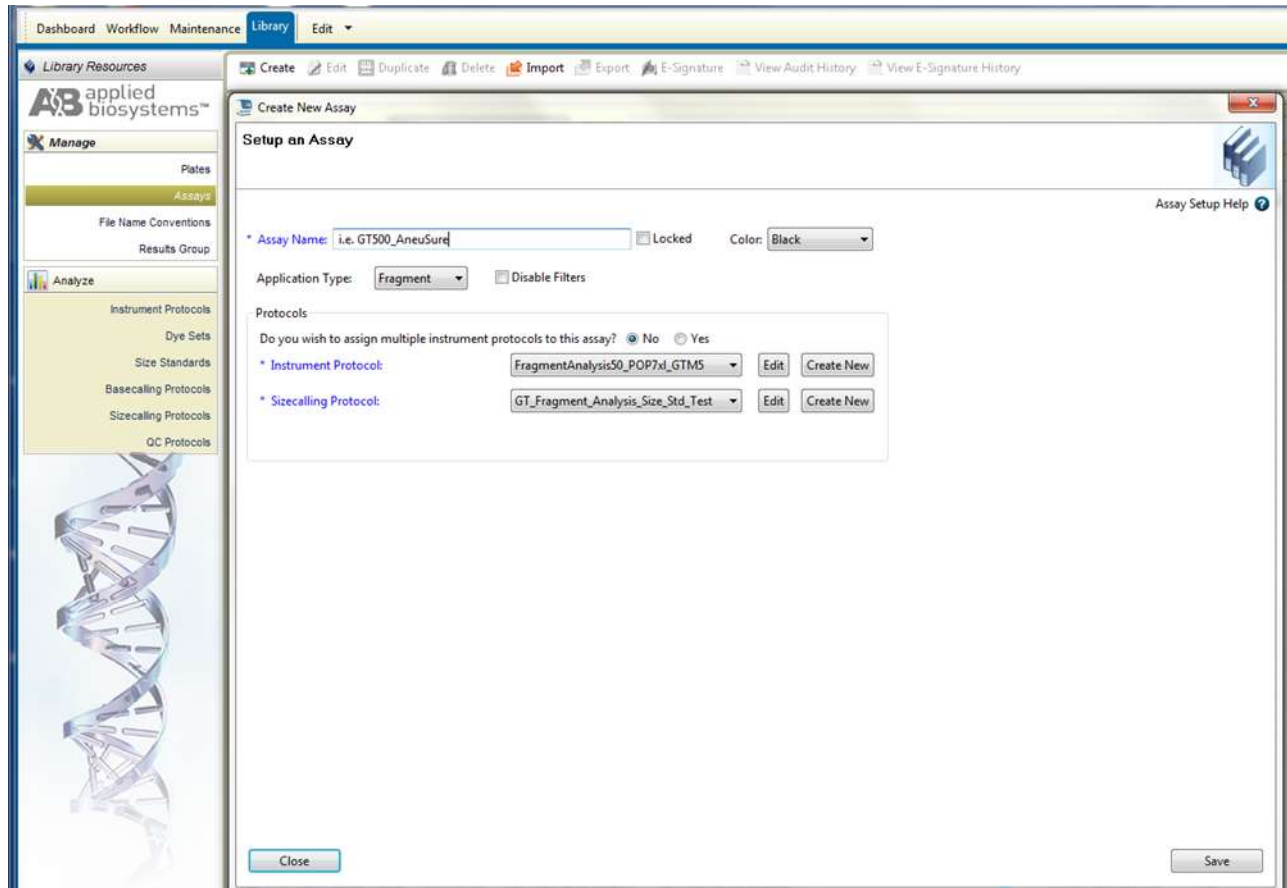

Figure 8. Screenshot for the “Create New Assay” window on Applied Biosystems® 3500 Data Collection software
- c) select “Create” (Figure 8)